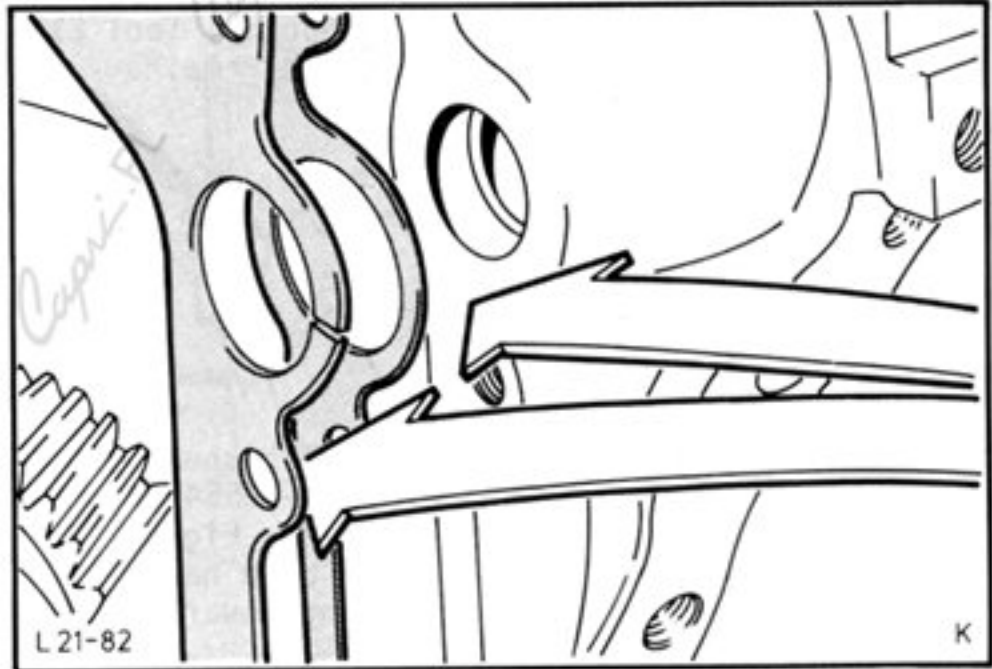

Fig.56. Fit intermediate plate with gasket.
43. Apply sealing compound to cylinder block front outer diameter and to rear of front intermediate plate. Position gasket and fit intermediate plate to cylinder block, initially only finger-tightening bolts, Fig.56. Fit two further bolts into lower intermediate plate bores for locating purposes and remove bolts after torquing intermediate plate.